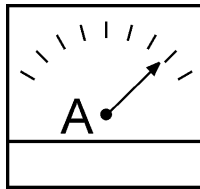

Figure 52. Ammeter (Load)
14. Observe the generator's ammeter (Figure 52) and verify it reads the anticipated amount of current with respect to the load. The ammeter will only display a current reading if a load is in use.